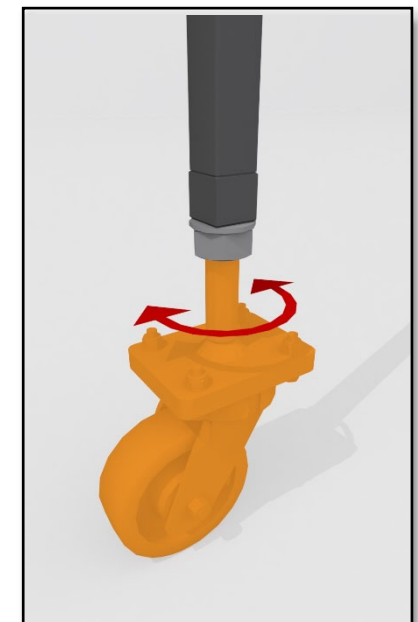

Fig. 12 – Adjusting Height rotating castor
9.1.1.7 For fine adjustments to level the Stage, undo the M20 plain nut and rotate the castor plate mounted to the threaded bar. Once set, tighten the plain nut until snug. *Fig. 12 – Adjusting Height rotating castor*